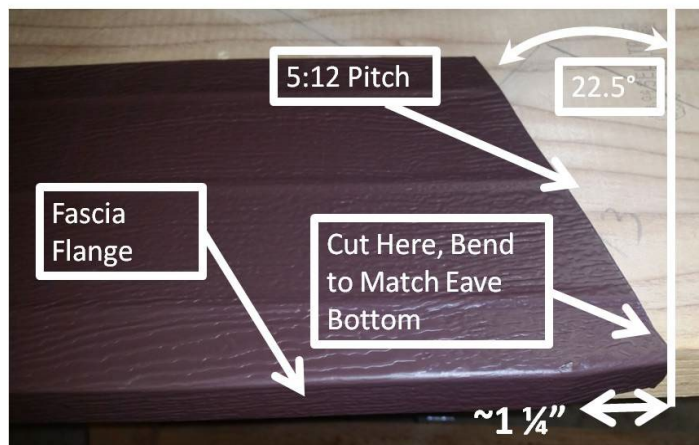

Figure 11-18. Eave End Gable Fascia.
9. Cut the fascia on this line; once installed, the cut edge will be vertical and will match the eave fascia corner. For reference, the blue scale indicates degrees; a 5:12 pitch aligns with 22.5°. Figure 11-18 shows the resulting piece after being cut to the correct angle.